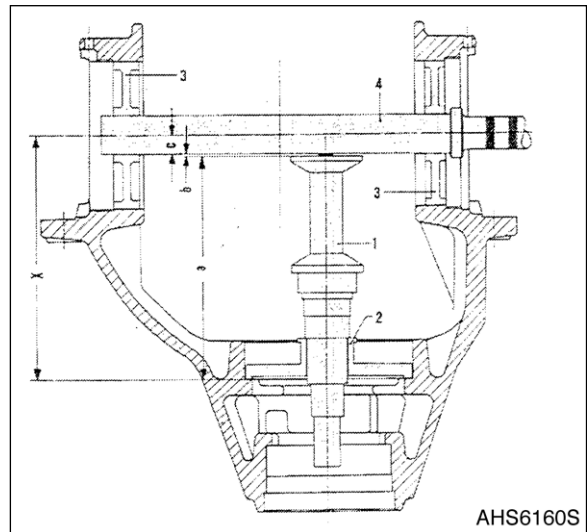

Figure 243
NOTE: When replacing a complete crown wheel set or axle carrier, pay attention to the Figure 243.
1. Install adjusting pieces (3) and temporarily fasten the two bearing caps. Install stop washer (2) and measuring pin (1) and introduce measuring shaft (4) (see Figure 243).